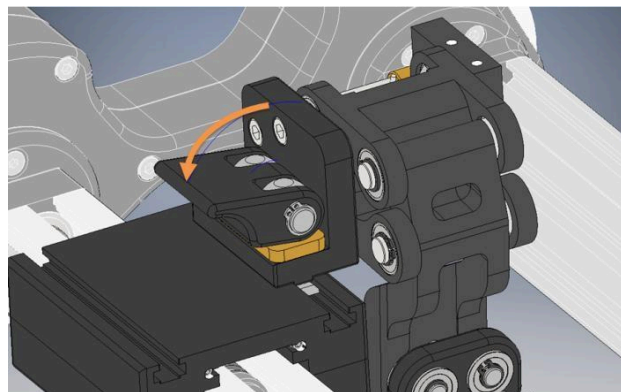

Figure 1
- 2) Rotate the Cam Release Lever down (Figure 1).